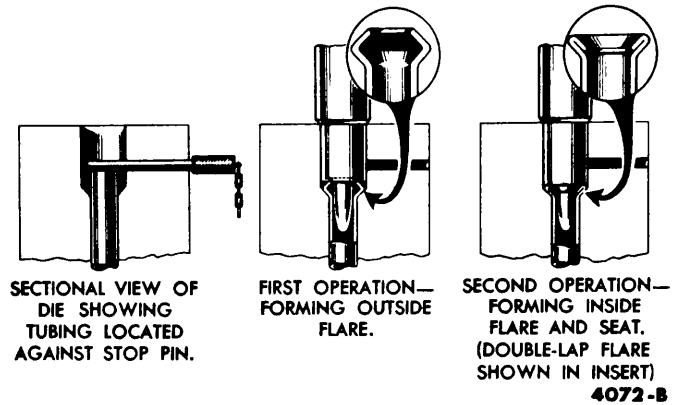

FIG. 66—Line Flaring Tool
3. Position the wire wrap on the new line. Place new connections on the line and flare the ends (Fig. 66). Bend the line to conform with the contour of the original line.